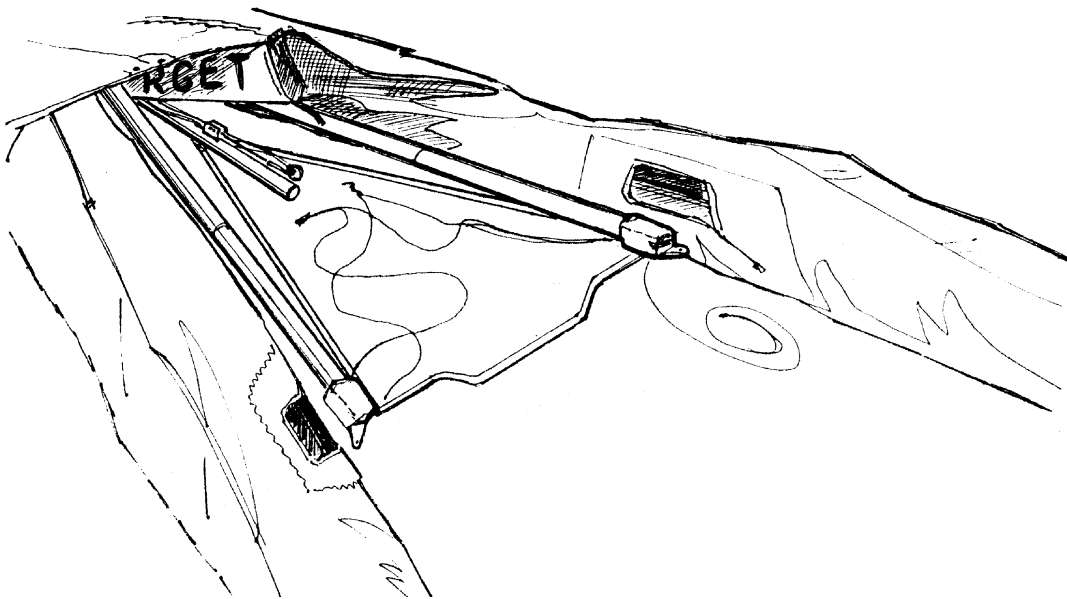

Fig.10
2.1.10. Spread wings about quarter way and lift slightly the sail above the keel tube. Put the crossbar on the keel tube so that crossbar tensioning wires pass through the channel of the kingpost. The plates of leading edge/crossbar junction, should be near corresponding holes in the leading edge (Fig.10).